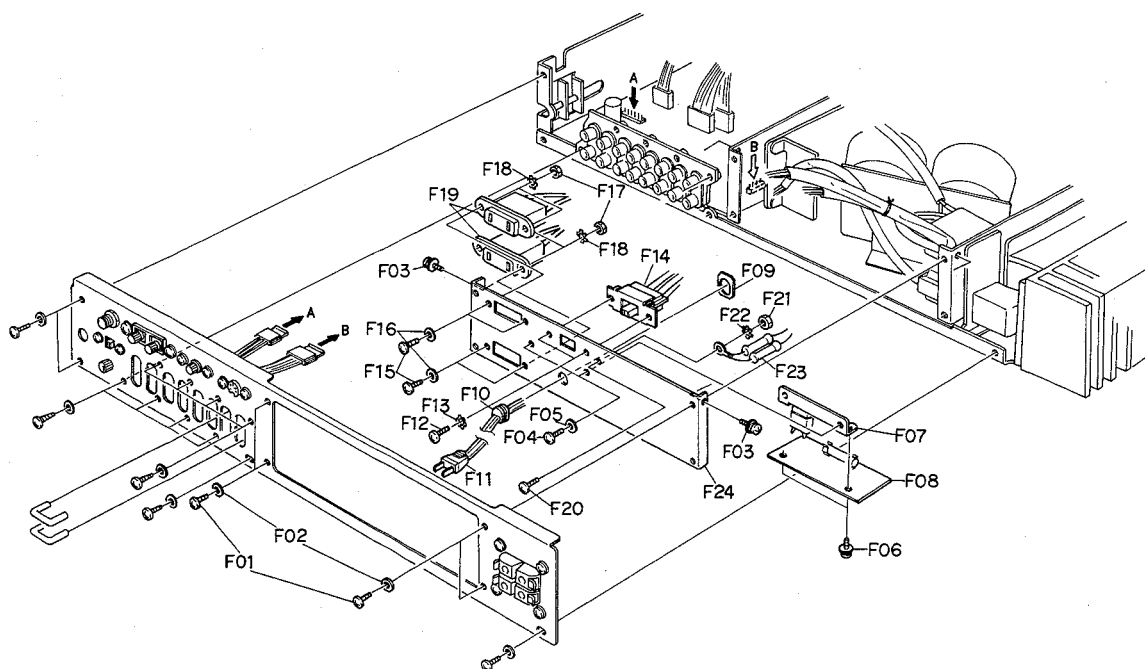

Fig. 3.13
Refer to Fig. 3.13. Remove Rear Panel Ass'y referring to item 3.11.